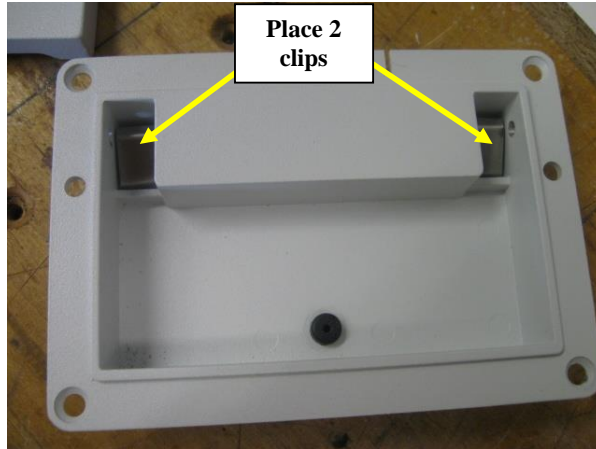

Figure 18
- 11.2. Place two (2) clips (provided with Handle) into the Handle's plate with the flat side down (see Figure 18).